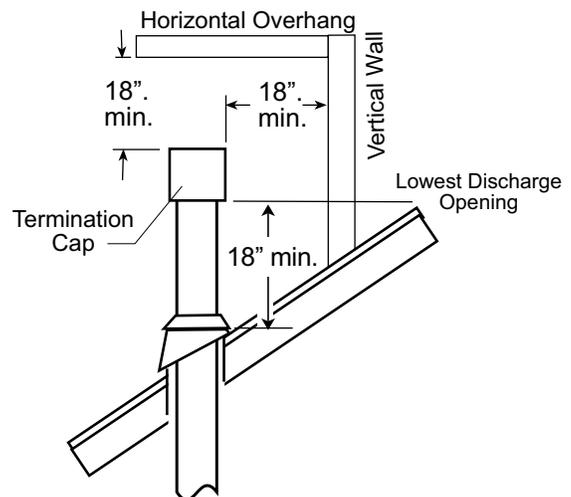

Figure 15. Vertical vent termination height above roof.
- **Vent Terminus Clearance:** In no case shall any discharge opening on the cap be less than 18 in. (457 mm) horizontally from the roof surface. See fig. 15.